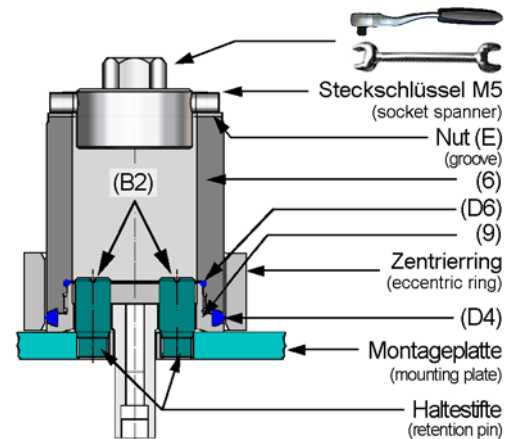
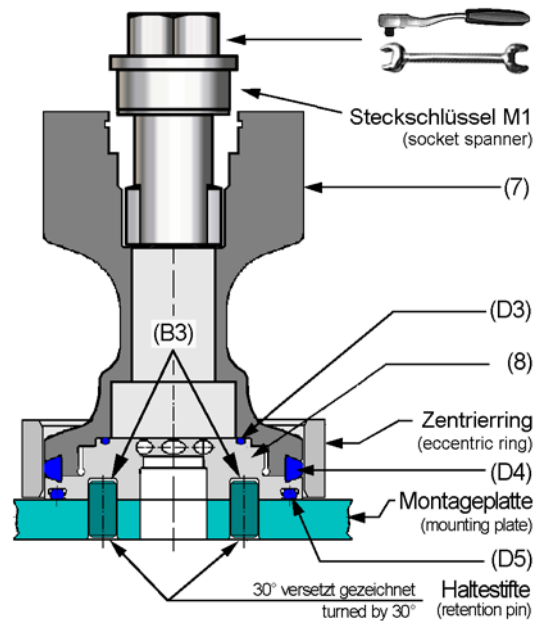
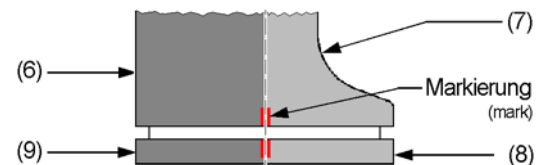

fig. 4
fig. 5
fig. 6
- Screw in piston plate (8) resp. (9) without the seal (D4) to the metal limit stop in the piston (6) resp. (7) and make a coloured mark (fig. 6 /page 9).
- Screw out the piston plate (8) resp. (9) of the piston (6) resp. (7).
- Push the seal (D4) into the piston (6) resp. (7) and screw the piston plate (8) resp. (9) into the pistons (6) resp. (7) by hand.
- Position the eccentric ring (M3) on the seal (D4) (fig. 5 /page 9).
- Clamp the mounting plate into the vice and fix the piston plate (8) resp. (9) (see fig. 4 /page 9 resp. fig. 5 /page 9).
- Position the socket spanner M1 resp. M5 and screw the piston (6) resp. (7) up to the final limit mark (fig. 6 /page 9).